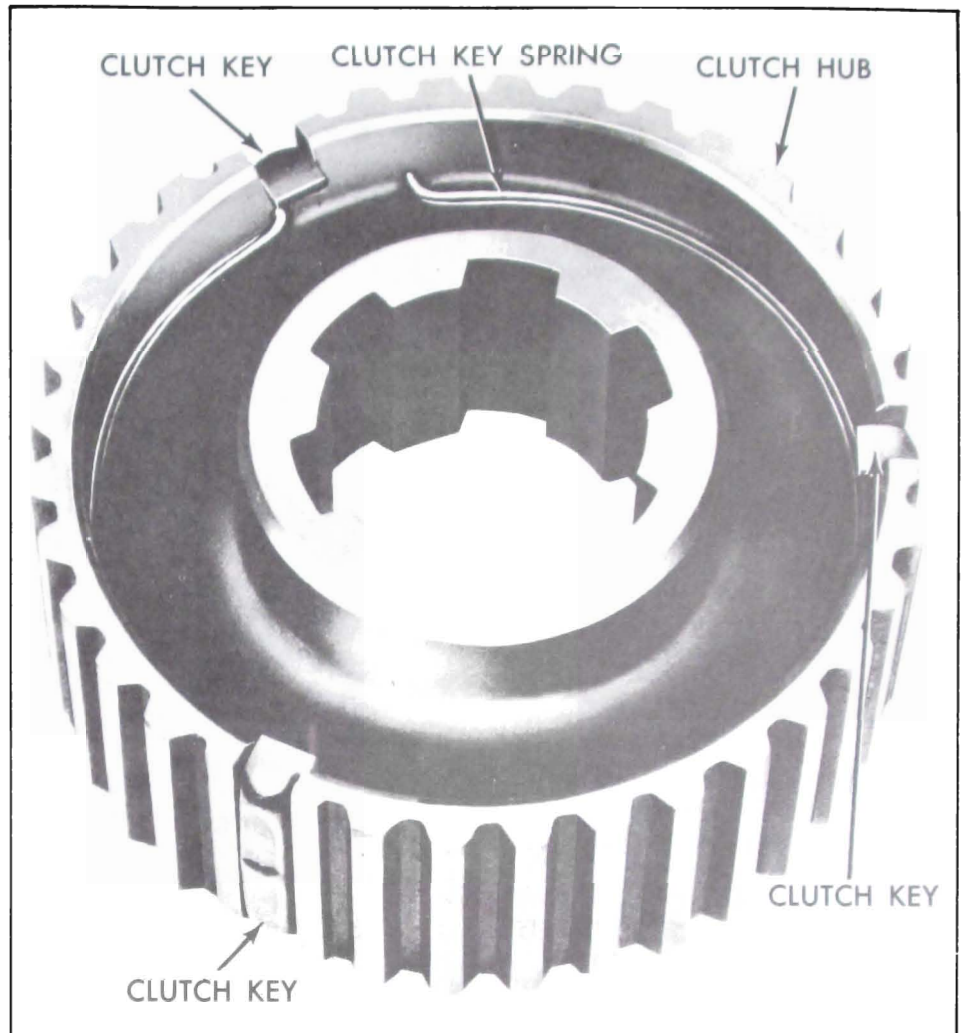

Figure 4-91—Clutch Hub Assembly
2. Place the two springs in position (one on each side of hub), so a tanged end of each spring falls into the same keyway in the hub. Place the keys in position and, holding them in place, slide the hub into the sleeve as shown in Figure 4-91.